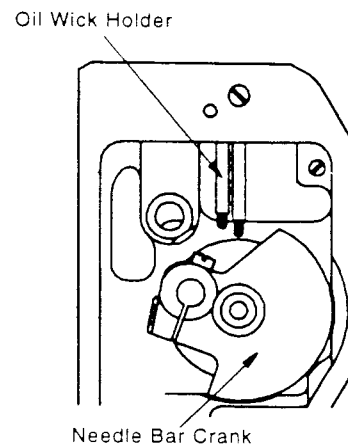

Fig. 32
9. Turn the needle bar crank until it is in the position shown in Fig. 32 to prevent crank from disturbing the two oil wick loops in oil wick holder during removal of arm shaft.
10. While maintaining needle bar crank in position shown in Fig. 32, hold arm shaft and upright arm shaft bevel gears in mesh by holding the blade of a large screwdriver between thrust collar and bevel gear, then push the end of the arm shaft through arm shaft bushing (back) toward face plate end of machine.
2. Make certain that the needle bar crank is turned to the position shown in Fig. 32, clearing the two wick loops in oil wick holder.